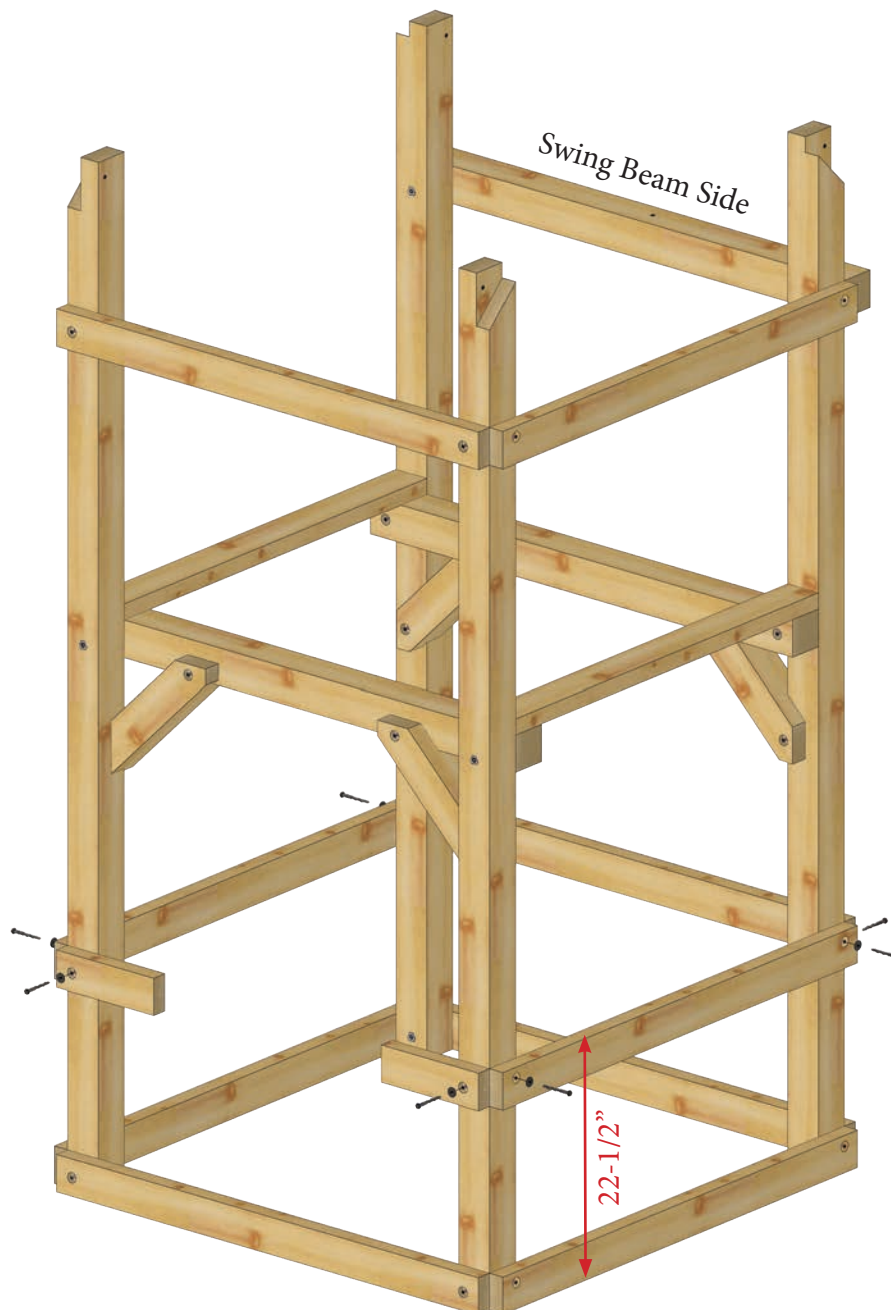

Figure 7.0
7.2 Fasten Top Panel Offset 48" (3) to Corner Post with 5/16 x 3 Lag Bolts with 5/16 washer as shown in Figure 7.0. Be sure to flip the orientation as you go to avoid the lags colliding in each corner post.
7.3 Fasten Top Panel Offset 12" to Corner Post with 5/16 x 3 Lag Bolts with 5/16 washer as shown in Figure 7.0.